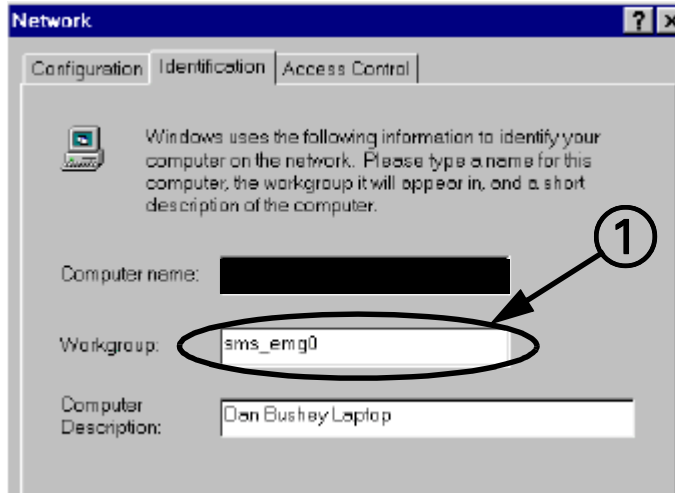

Figure 14-6 Network Window
11. At “Network” window (see Figure 14-6) click on *Identification* Tab.
13. Type Domain Name (See Domain Name box in Table 6-4.) into Workgroup box (1 in Figure 14-6), and click on *OK*,